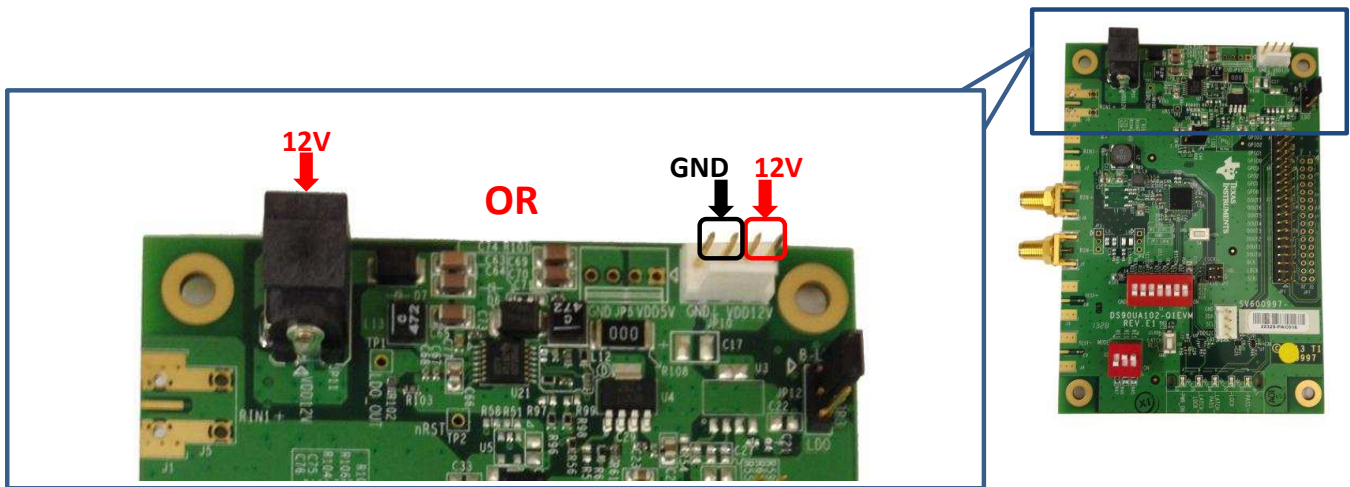

Figure 2-2. Powering the DS90UA102-Q1 Evaluation Board
1. Connect 12V to pin 1 or 2 of JP10, OR connect 12V via Power Jack on JP11. (Refer Figure 2-2)
2. Connect ground to pin 3 or 4 of JP10. (Refer Figure 2-2)